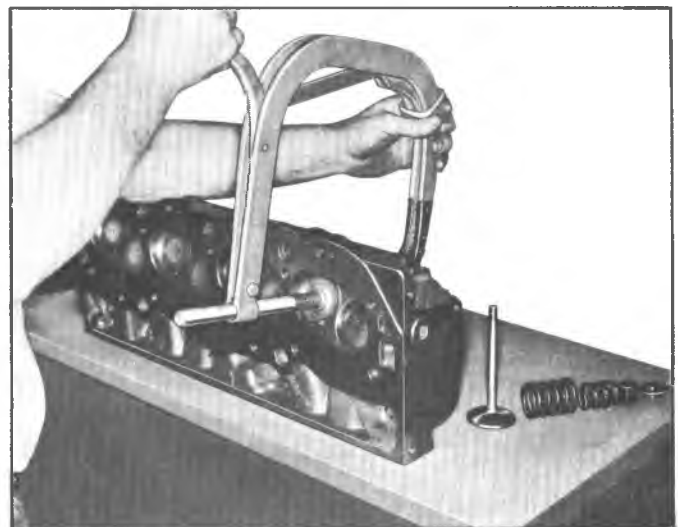

Fig. 13—Compressing Valve Spring
- 2. Using Tool J-8062, compress the valve springs (fig. 13) and remove valve keys. Release the compressor tool and remove rotators or spring caps, spring shields (if so equipped) springs and spring damper, then remove oil seals and valve spring shims.